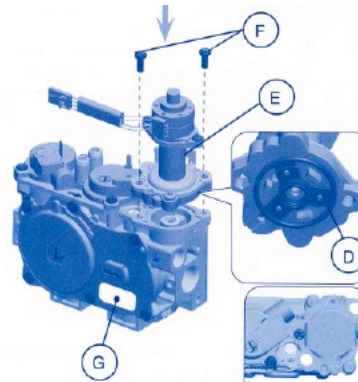

Figure 8 SIT Instructions Figure
2. Ensure the prefitted rubber gasket is properly positioned (Figure 8 - D). Otherwise, fit the gasket as shown.